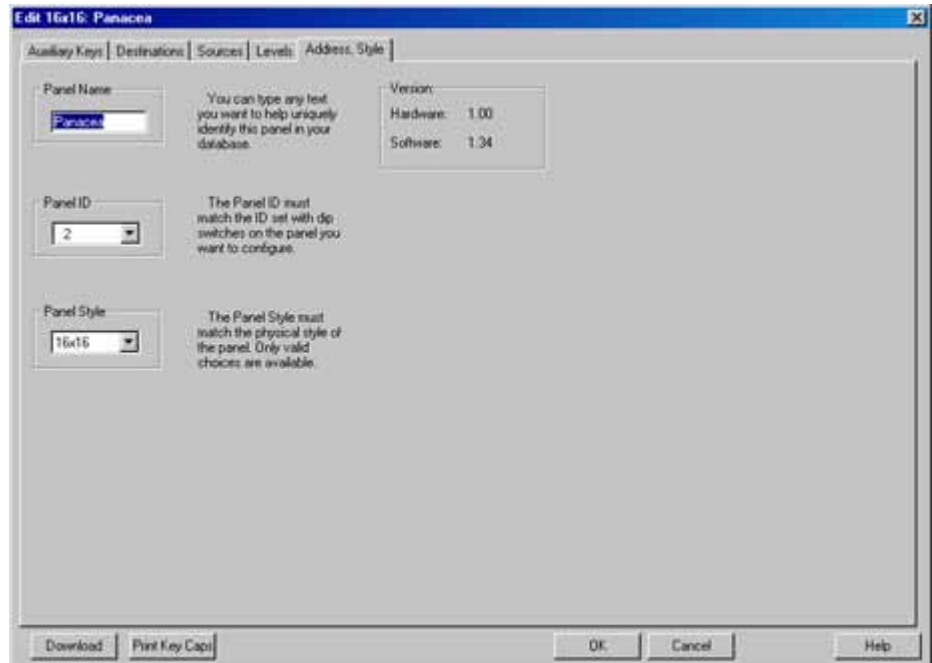

Figure 1-6 Address, Style Tab
- 3 Select the Address, Style tab (see Figure 1-6). Panel name, ID, and style information should match the information found when you polled the system.